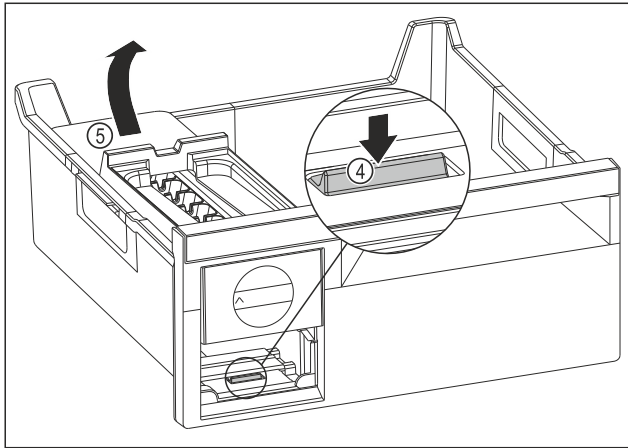

Fig. 144
- ▶ Removing the EasyTwist-Ice body: Use your finger to push the tab Fig. 144 (4) down and use your other hand to lift the EasyTwist-Ice body Fig. 144 (5) from behind at the same time.